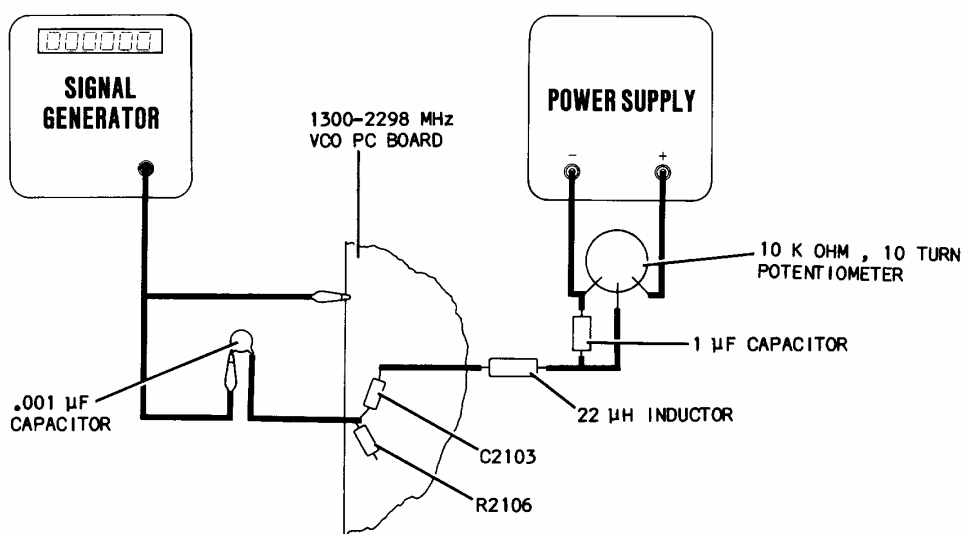

Figure 7-4 Dual VCO Test Connections
C. PREPARATION (Refer to Figure 7-4, Dual VCO Assembly Drawing in Section 6 and Dual VCO Module Drawing in Section 9)
5. Connect 10 K Ω potentiometer, 1.0 μ F capacitor and 22 μ H inductor to J2101 as shown in Figure 7-4.
7. Connect alligator clips to .001 μ F capacitor and to VCO PC Board ground as shown in Figure 7-4.
8. Solder .001 μ F capacitor to junction of R2106 and C2103 on first VCO PC Board as shown in Figure 7-4.